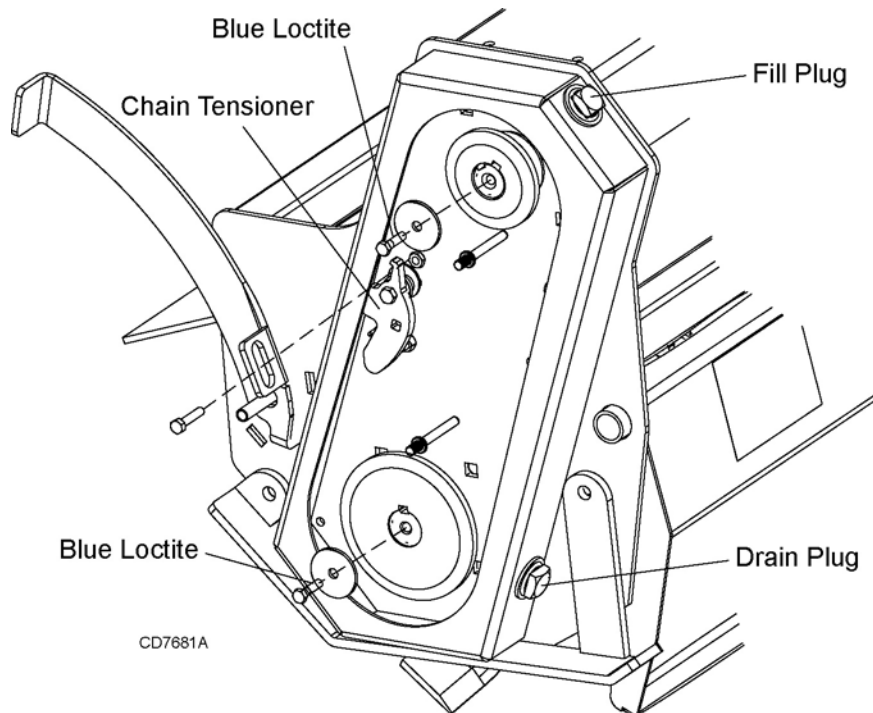

Figure 15. Release Chain Tension
7. Release the tension from the chain, Figure 15, and remove the top sprocket and sleeve from the side drive shaft.